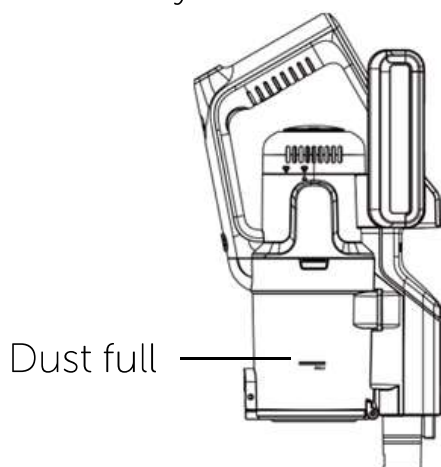

Fig.11
1. When the dust container reaches the MAX line marked on the dust container (fig 11) or when the suction power is reduced, it is time to empty the dust container.